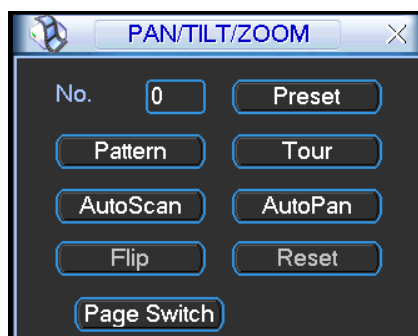
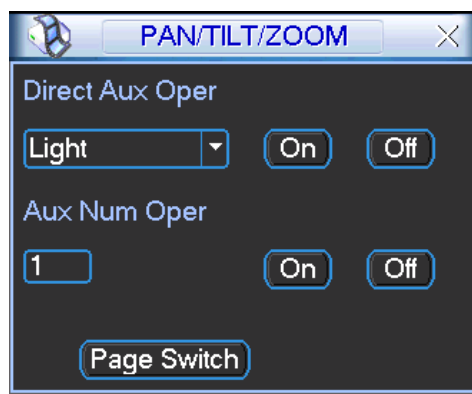

Figure 6-6
Figure 6-11
In Figure 6-2, click page switch button, you can see an interface as in Figure 6-6.
**Note:** The following setups are usually operated in the Figure 6-2, Figure 6-5 and Figure 6-6. In Figure 6-2, use eight direction arrows to adjust camera to the proper position.
In Figure 6-6 please input preset number in the No. blank, and click preset button.
In Figure 6-6, input patrol number in the No. blank and click patrol button
In Figure 6-6 input mode value in the No. blank, and click pattern button.
In Figure 6-6, click auto scan button, the system begins auto scan. Correspondingly, the auto scan button changes to stop button.
In Figure 6-6, click page switch button, you can see an interface is shown as below. See Figure 6-11. Here you can set auxiliary function.